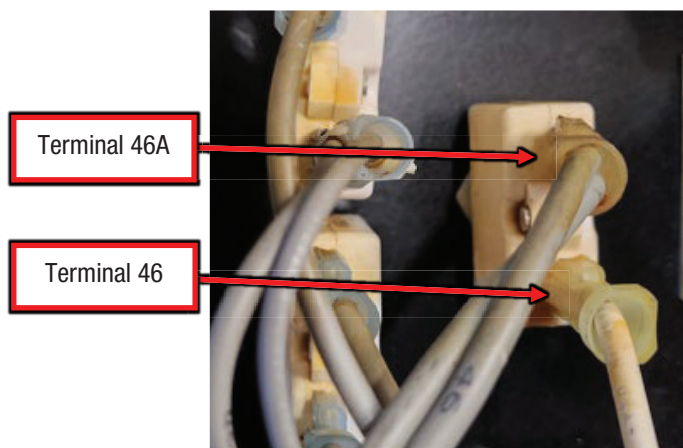

Figure F.3
A.3. Perform the static measurements in Test Table 1, refer to Figure F.3 for test point locations. NOTE: MEASUREMENTS ARE MADE ON CB9 WITH THE LEADS REMOVED.